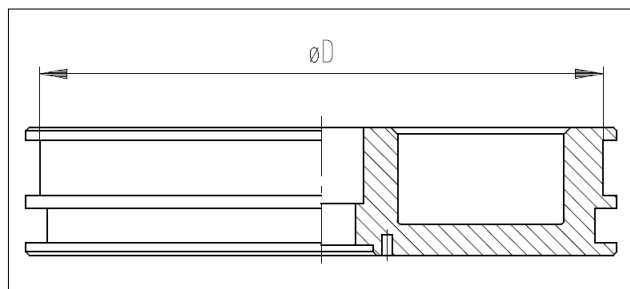

Fig. C-2 Piston diameter measurement
- 2) Measure diameter of piston (Fig. C-2). Difference between the piston and cylinder diameter must be in range from 3,98mm to 4,08mm. If the difference is bigger, oversized piston must be used (Tab. C-3).